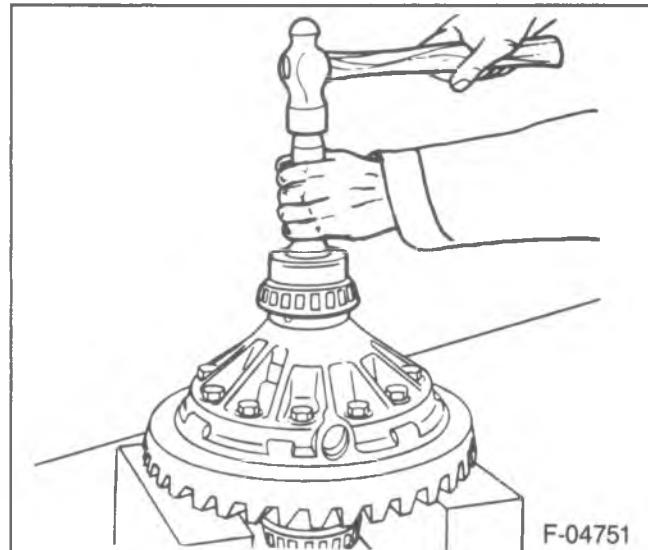

Figure 80—Installing Differential Bearings
- New ring gear bolts (36).
- Differential side bearings (18) using J-24429 and J-8092 (figure 80).
- Differential case (34) to the axle housing. Refer to "Side Bearing Preload Adjustment" in this section.